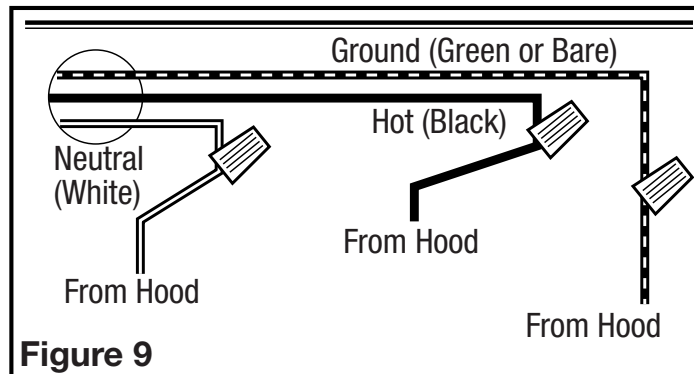

Figure 9
1. Connect the loose White wire from the range hood to the White wire from the supply, and the loose Black wire from the range hood to the Black wire of the supply. Connect the ground wire (green or bare) from the supply to the green wire from the hood. Use approved methods for all connections (Figure 9).